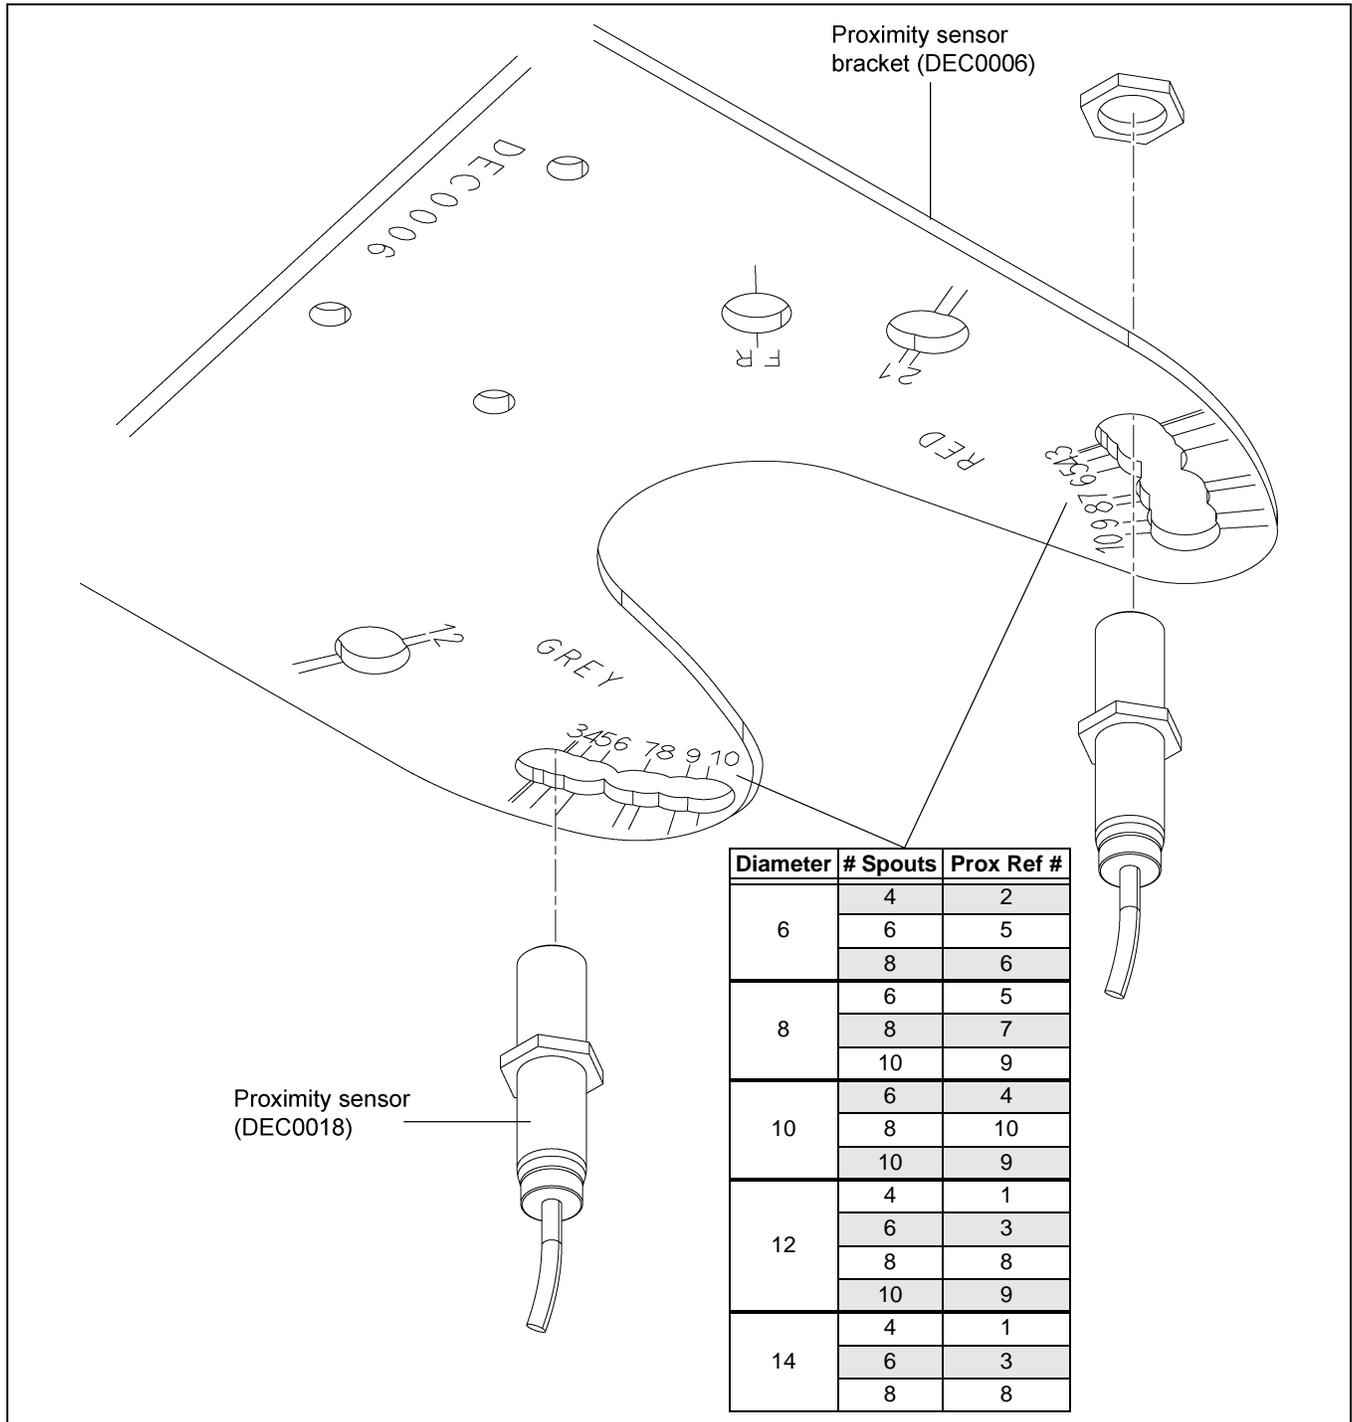

Figure 3E Proximity Sensor Location
**NOTE:** The location of the proximity sensor will be determined by the size of the distributor. Using the table shown in *Figure 3E*, locate the diameter and number of spouts of the distributor being used and note the proximity sensor reference number. This reference number is marked on the bottom of the proximity sensor bracket (DEC0006) and identifies the location for installing the proximity sensors (DEC0018).
Install the two (2) proximity sensors (DEC0018) into the proximity sensor bracket (DEC0006) at the appropriate locations determined from the table. (See *Figure 3E* below and *Figure 3G* on Page 14.)